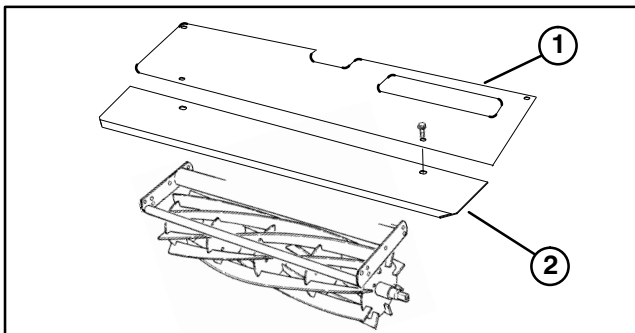

Figure 10
4. On **front** cutting units only, remove (2) flange head screws securing front of each cutting unit cover to frame (Fig. 10).
5. Insert a cutting unit shield between cover and frame, align mounting holes and secure with flange head screws previously removed (Fig. 10).